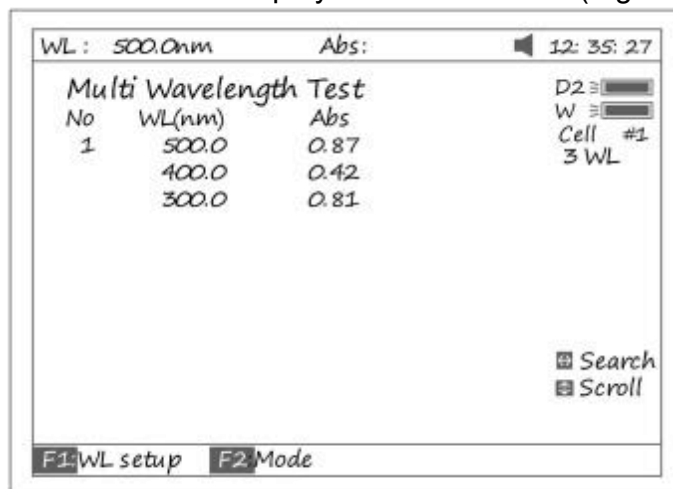

Fig 71
- Pull the sample cuvette into Main Light Path, press **【START】** to test. The test results will be displayed on the screen (Fig 71).